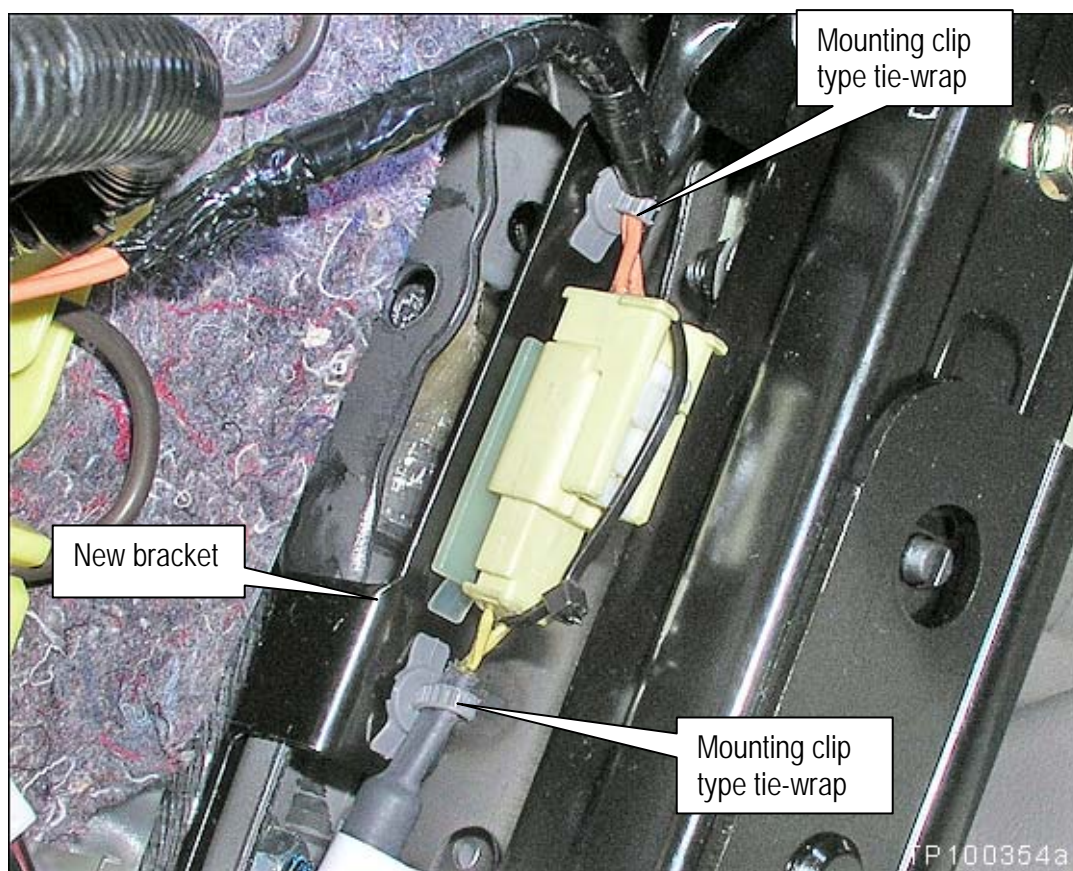

Figure 10
13. Mount the SAB connector on the new bracket as shown in Figure 10.